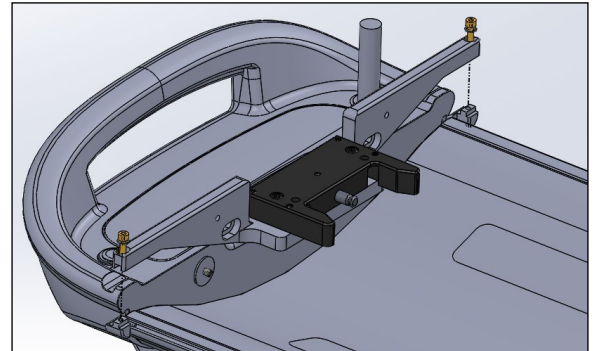

Fig. 47
2. Place the latch assembly onto the CT as shown in Fig. 47.